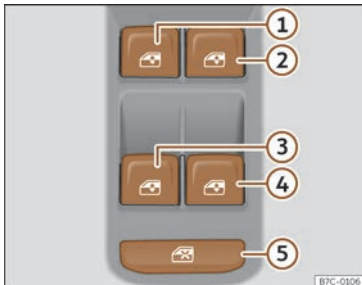

Fig. 60 Detail of the driver door: controls for the windows.
The safety control >>> Fig. 60 ⑤ on the driver door can be used to disable the electric window buttons on the rear doors.